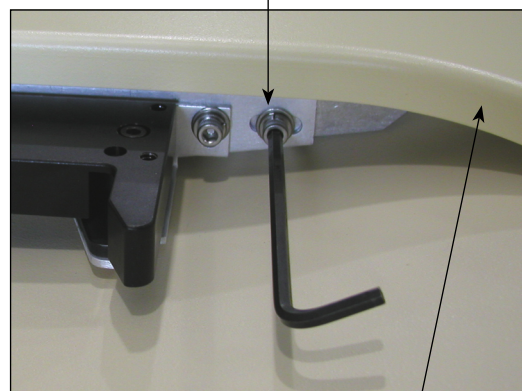

Fig. 24
3. If more adjustment range is needed, loosen the two Mounting Bracket adjustment screws, move the bracket, and re-tighten (Fig. 24). Make sure that the CT Overlay does not contact the faces of the Mounting Assembly Painted Shroud.